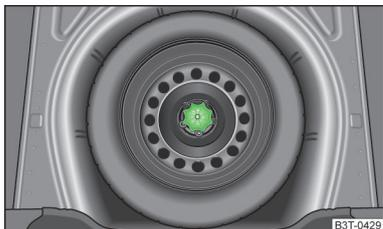

Fig. 173
The spare wheel is located in a well under the floor covering in the boot and is fixed in place with a special bolt » Fig. 173.
- › Unscrew the nut » Fig. 173 anti-clockwise.
- › Screw on the nut » Fig. 173 clockwise until the wheel is safely secured.